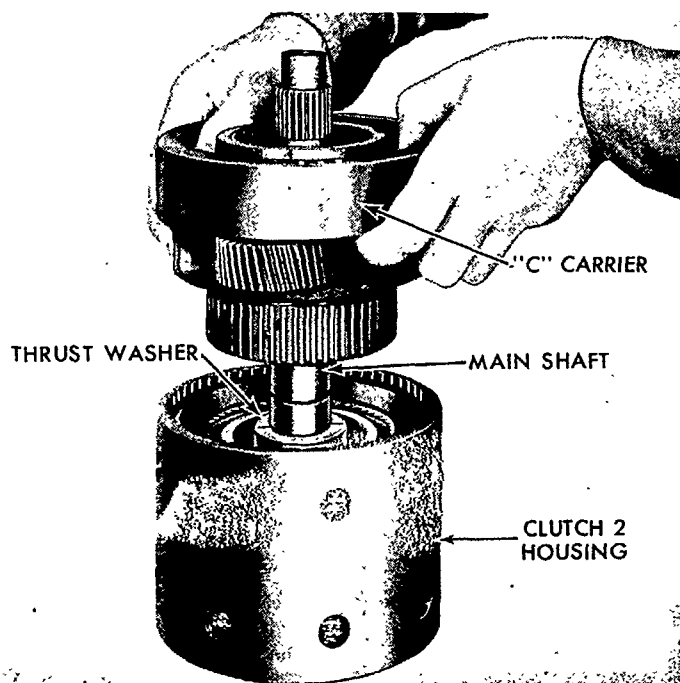

Figure 82
22. Insert the "C" sun gear to "C" carrier thrust washer into the "C" carrier so it is positioned beneath the pinions. Install the "C" carrier over the end of the mainshaft, as shown in Figure 82. Align the "C" carrier splines with the clutch splines, rotating the carrier back and forth until